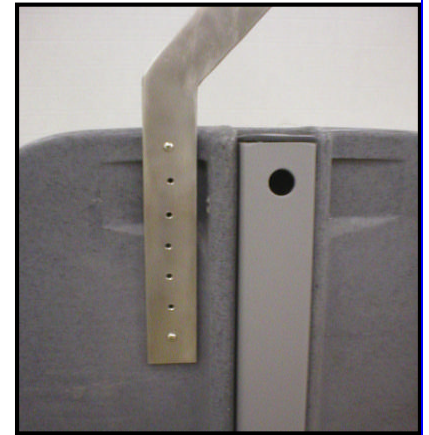

FIGURE 8
3. Adjust the height of the headrest for the user and mark the hole locations (**FIGURE 8**).
5. Install the headrest with the supplied stainless steel screws (**FIGURE 8**).